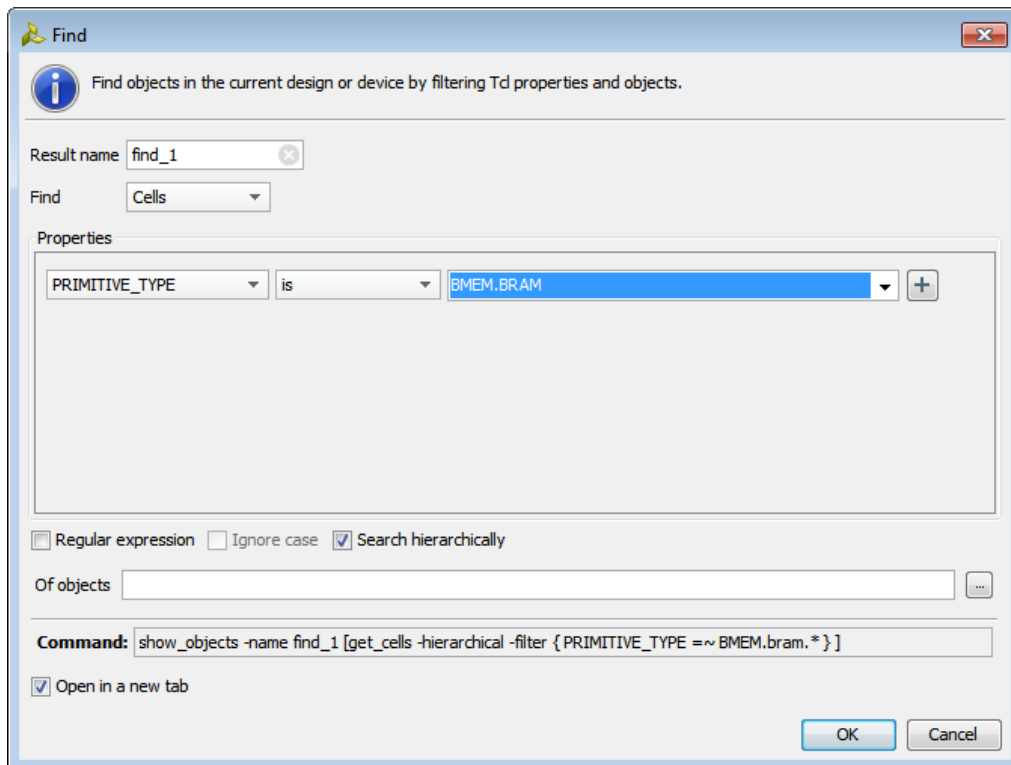

Figure 34: Find Dialog Box
1. Select **Edit > Find** to open the Find dialog box, seen in Figure 34.